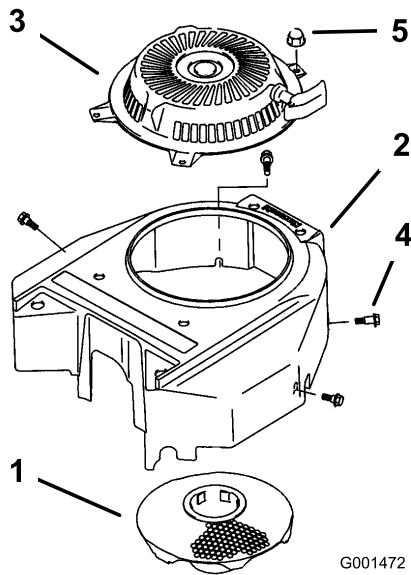

Figure 49
3. Remove the air-intake screen, recoil starter, and fan housing (Figure 49).
5. Install the air-intake screen, recoil starter, and fan housing (Figure 49).